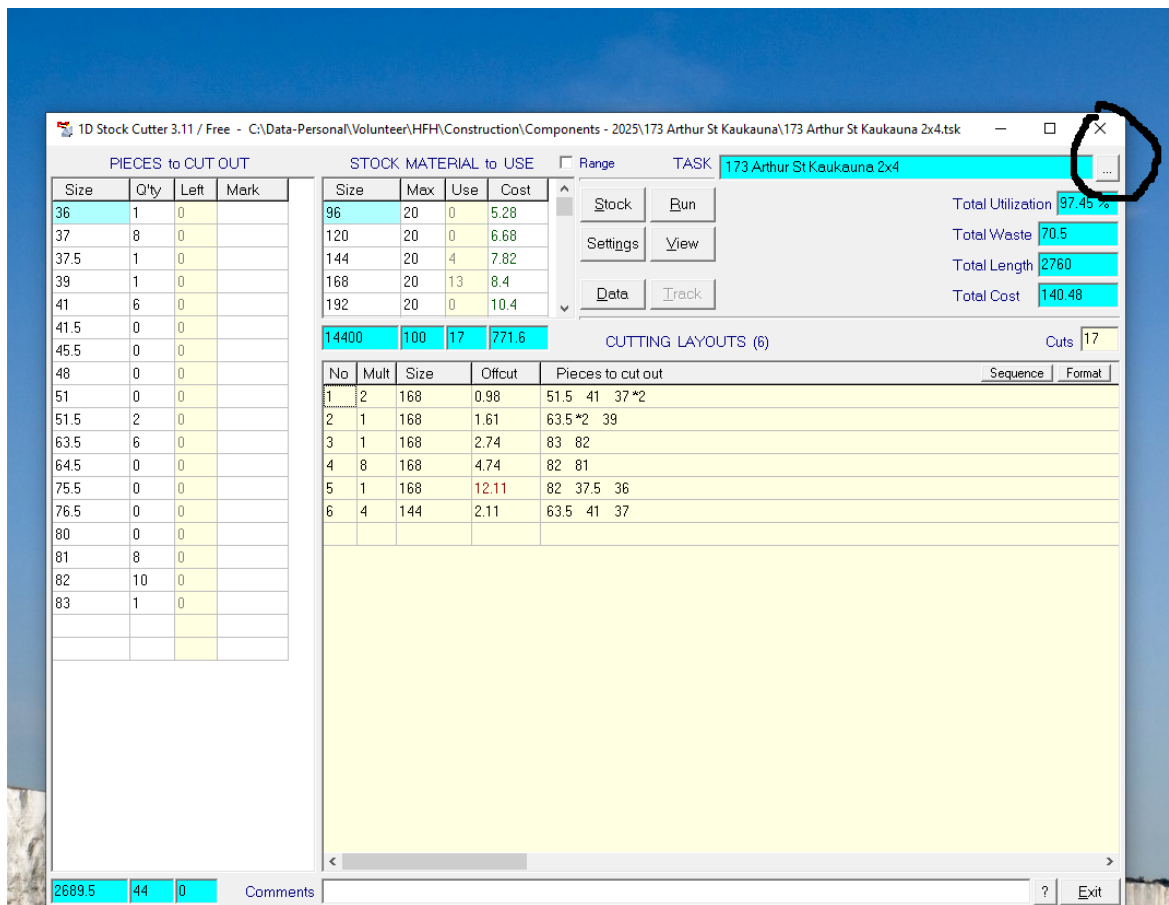

Figure A-1. Stock Cutter Ellipsis Square.
1. In the Stock Cutter program, activate the TASK window by clicking on the square box (containing an ellipsis, i.e. "...") in the upper righthand corner (see Figure A-1). Then, click on "Open task" and navigate to the Masters folder. Open the 2x10 Master.tsk file. In the TASK window at the upper right corner of Stock Cutter, name the task
1. In the Stock Cutter program, activate the TASK window by clicking on the square box (containing an ellipsis, i.e. “...”) in the upper righthand corner (see Figure A-1). Then, click on “Open task” and navigate to the Masters folder. Open the 2x6 Master.tsk file. In the TASK window at the upper right corner of Stock Cutter, name the task
1. In the Stock Cutter program, activate the TASK window by clicking on the square box (containing an ellipsis, i.e. “...”) in the upper righthand corner (see Figure A-1). Then, click on “Open task” and navigate to the Masters folder. Open the 2x4 Master.tsk file. In the TASK window at the upper right corner of Stock Cutter, name the task